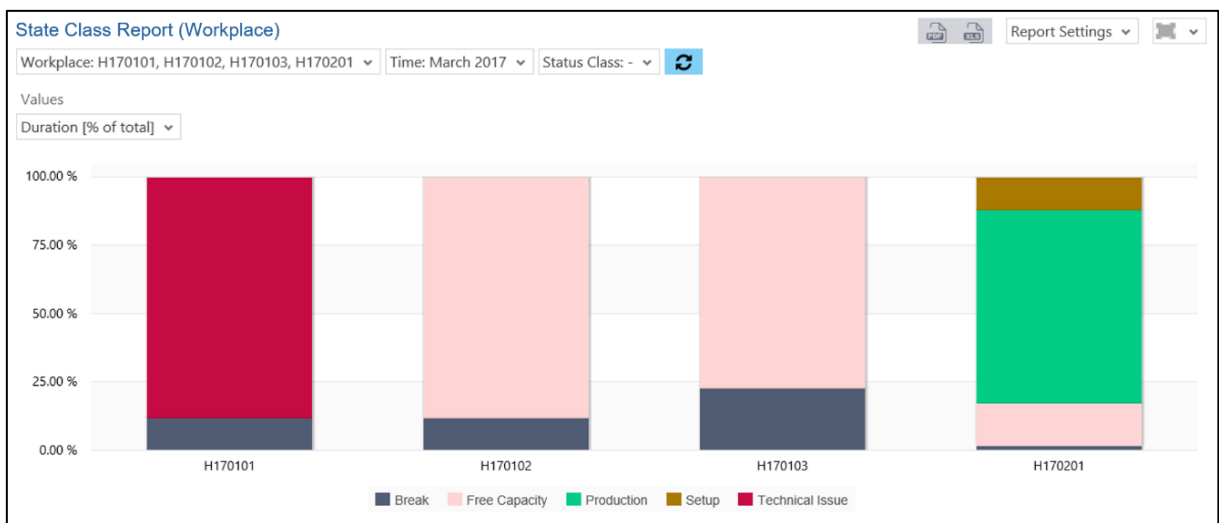

Fig. 55: Operating state class report (workplace) as column chart
- Operating state class report (workplace) as column chart (fig. 55):